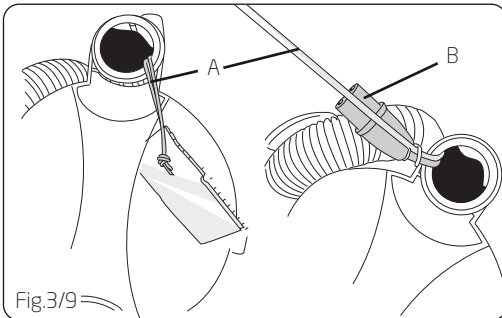

Fig.3/9
Hold plug (B) with one hand; upper handle (C) with other hand. Push plug into upper handle, aligning with opposite end of plug and push firmly **UNTIL YOU HEAR A SNAP OR A CLICK** (Fig.3/10).